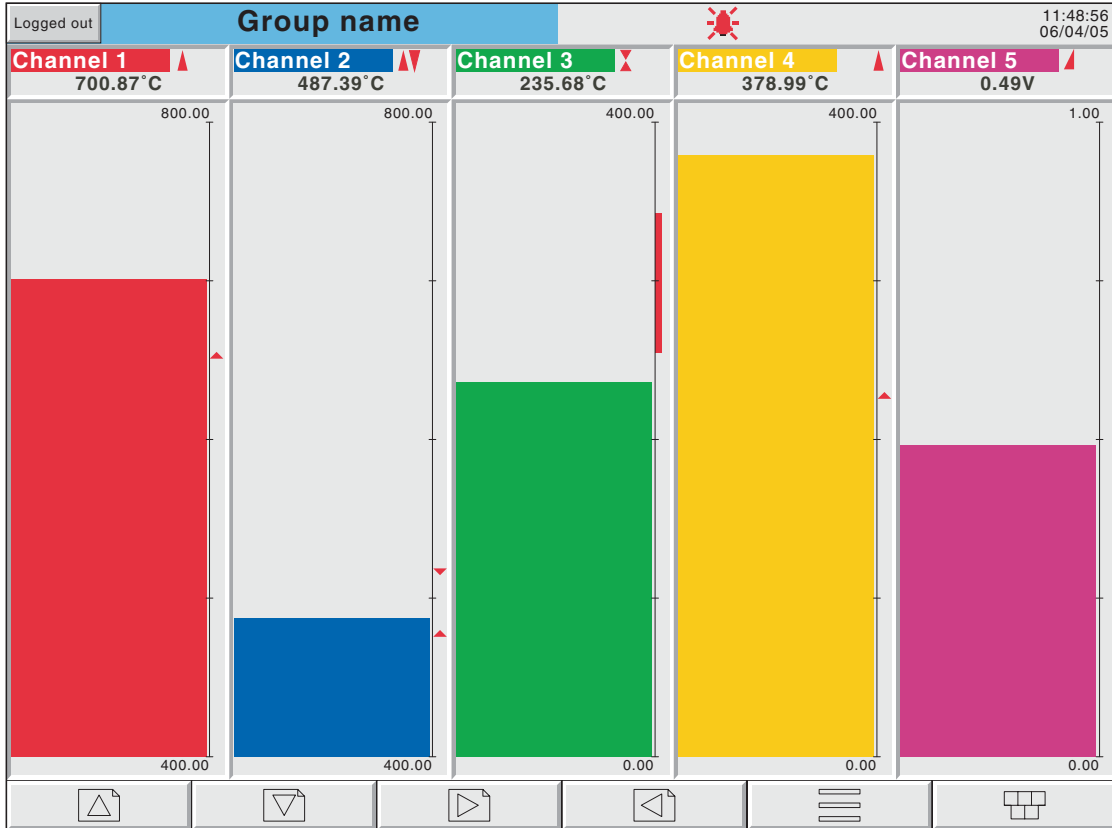
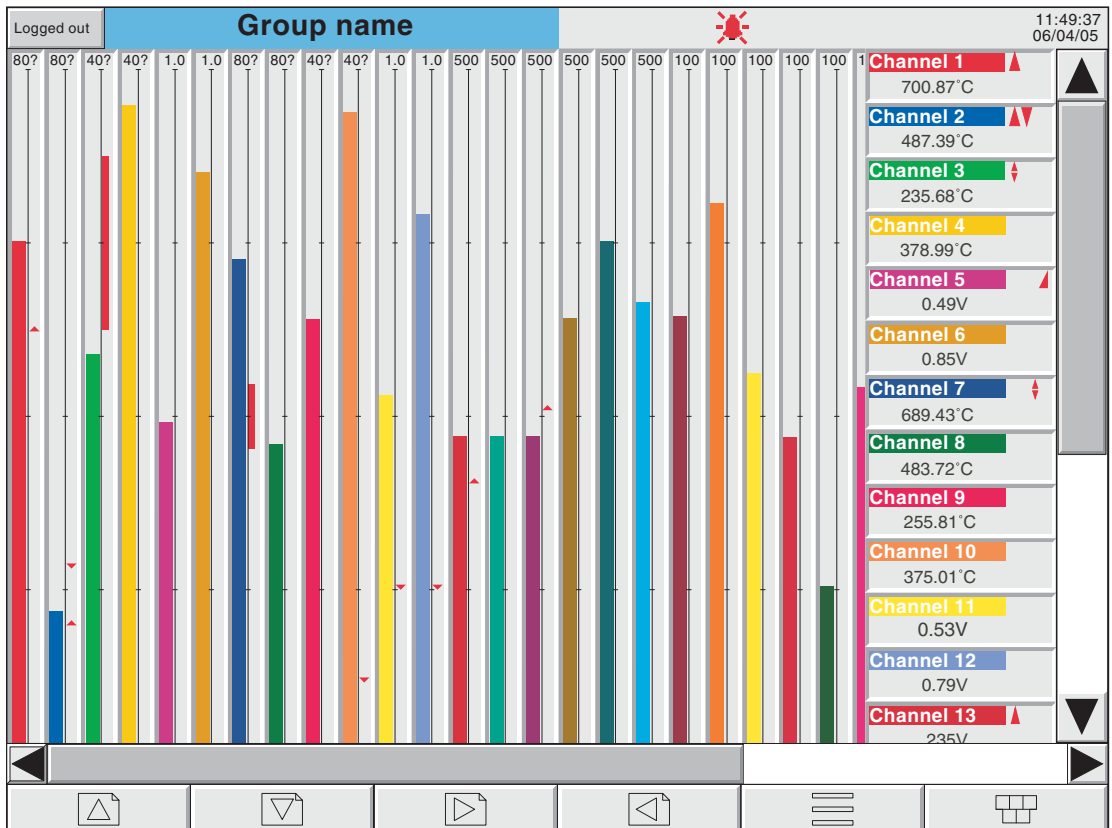

Figure 3.4.4a Vertical bargraph display (1 to 6 channels)
Figure 3.4.4b Vertical bargraph display (more than 6 channels)
Entered from Circular Trend mode by means of the down arrow key, or selected from the Root Menu 'Goto View' key, this display mode shows the Process Variable (PV) values as vertical bars with faceplates containing digital values and alarm data. There are two versions, one with faceplates above the bars (1 to 6 channels - figure 3.4.4a); the other (with faceplates at the right hand edge of the display - figure 3.4.4b) is used where there are more than six channels.
See figure 3.4.4a.
See figure 3.4.4b.
As the number of PVs increases, the bars get narrower. As the bars get narrower, so the scale values become truncated as shown in figure 3.4.4b. The bars have a set minimum width, and if the total number of points in the group cannot be displayed within the width of the screen, a horizontal scroll bar appears, allowing 'hidden' bars to be viewed. Similarly, the faceplates reduce in height to a minimum readable height. If there are more point faceplates than can be accommodated within the height of the screen, a vertical scroll bar appears, allowing hidden faceplates to be displayed as required.